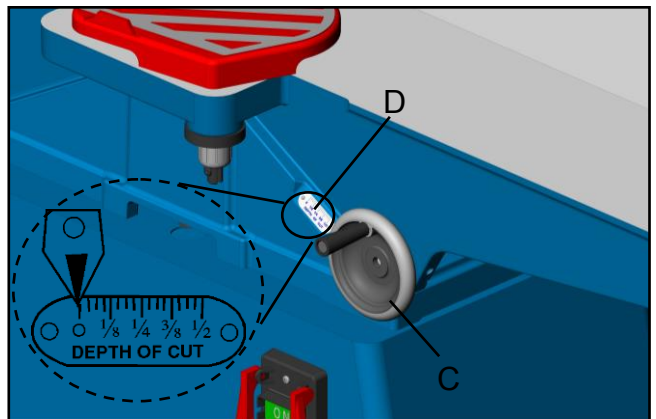

Fig. 9
3. Use handwheel (C, Fig.9) to adjust infeed table height to the desired depth of cut and then release the 1/8" depth stop lockpin (B) and retighten lock knob (A) to secure the infeed table in position and lock the handwheel.
**Note:** Refer to the graduated depth scale (D). Loosen the in disconnected from the power source.